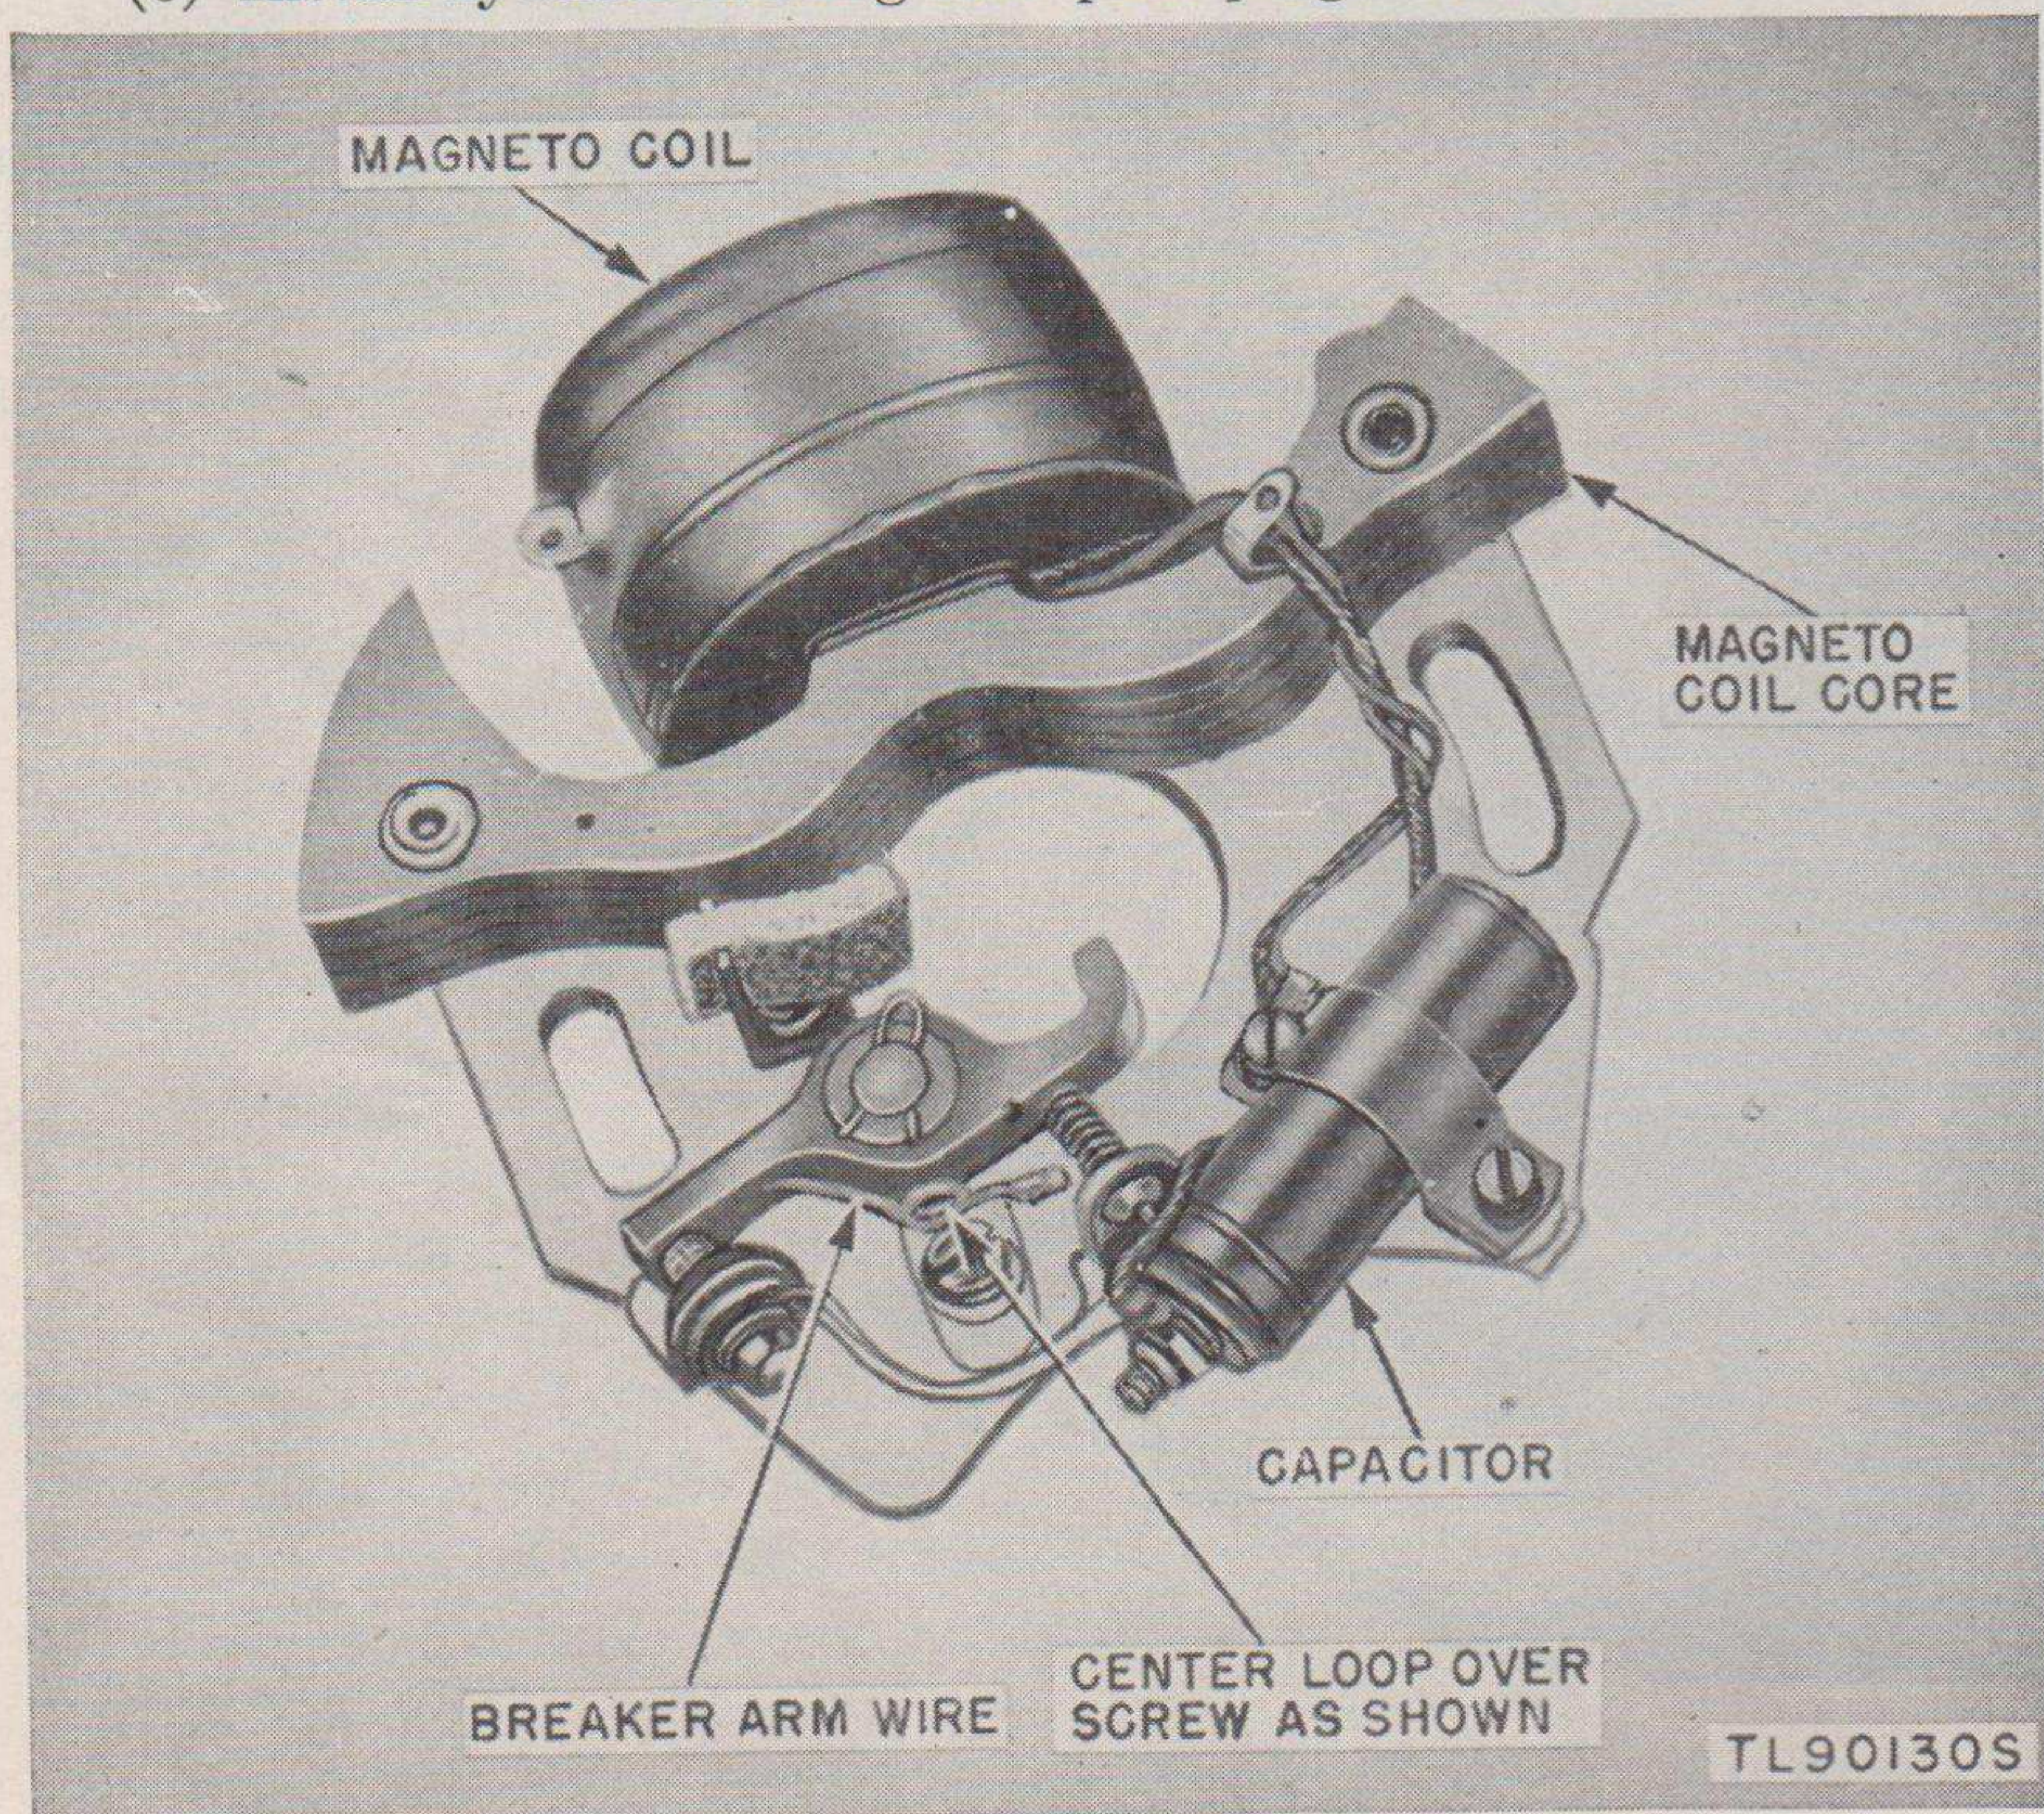

Figure 32. Magneto stator plate.
c. BREAKER POINT REPLACEMENT (figs. 32 and 33). If either contact point is badly pitted or worn away, replace both points at the same time to assure satisfactory operation. Replace breaker points as follows:
- (1) Remove the screw that holds the breaker plate to the stator plate. Remove the breaker arm lock and washer. Lift breaker arm from plate, being careful not to lose the spring.
- (2) Remove the nut and lockwasher from stud end of the capacitor. Remove lead and breaker-plate leaf spring. Remove breaker plate from stator plate.